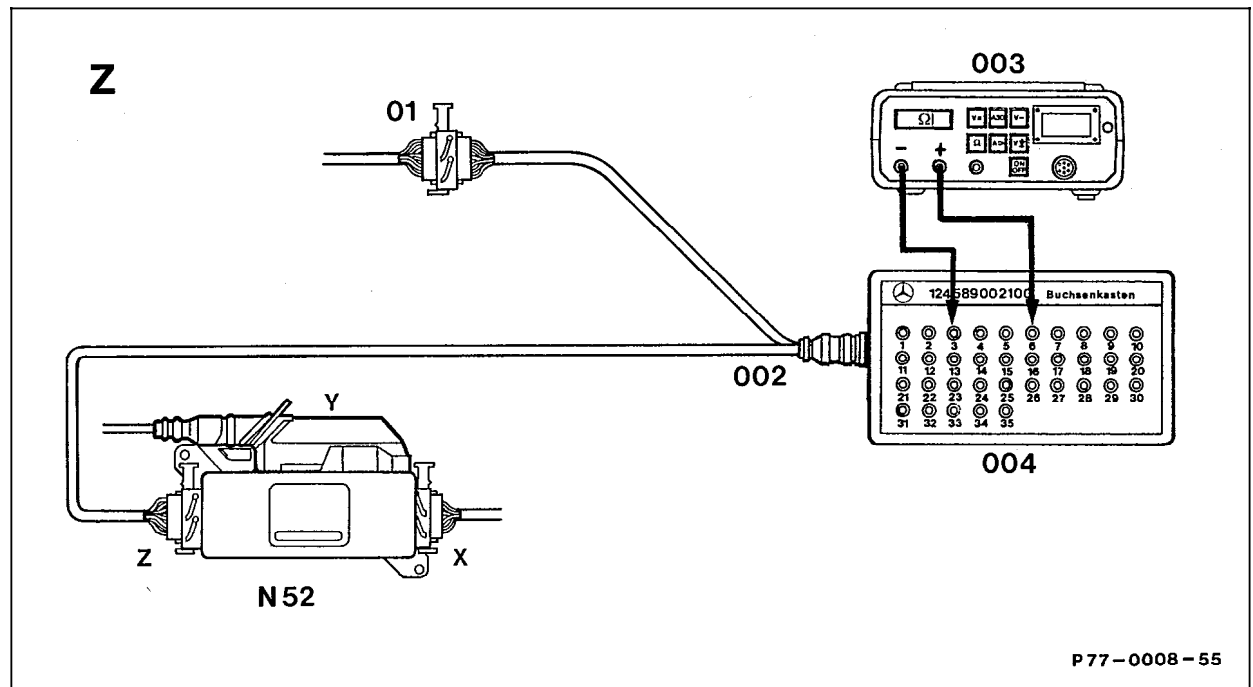

Figure 6
- Z  Connect socket box according to connection diagram "Socket Box to connector Z" (22, Fig. 6.)